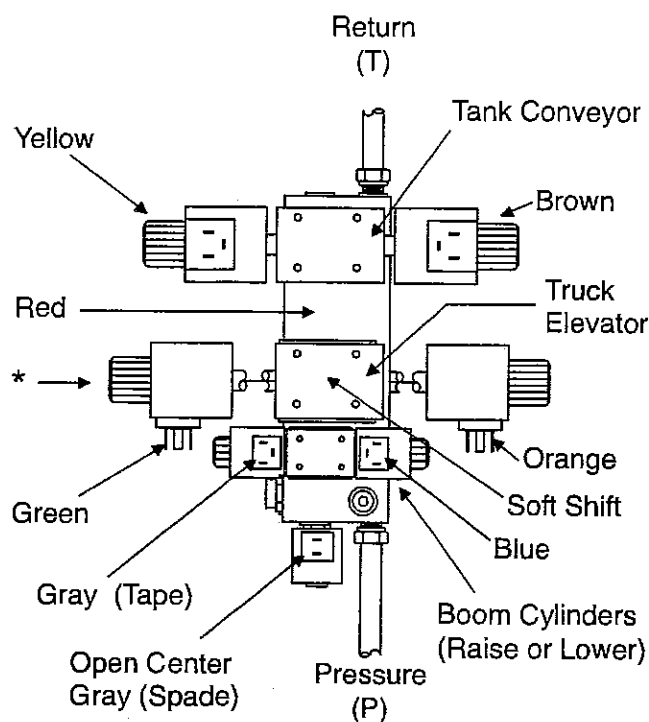

Figure 1.08: Wiring and Hydraulics.
For the procedures below, refer to Figure 1.08. For a more detailed illustration of the system, refer to Figure 3.20 thru 3.24 in "Section 3: Assembly of Beet Harvester"
2. The pressure side of the valve is identified in Figure 1.08 as (P). The tractor valve must be set to provide pressure to this port in the valve.
4. Solenoid valves may be manually overridden by inserting a small drift pin and pushing in. See the location marked by * in Figure 1.08.